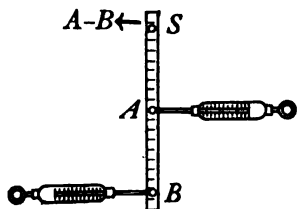

FIG. 66.—The moments about S are equal.
*To illustrate:* Take a rod, as a meter stick, drill a hole at S and place through it a screw fastened at the top of the blackboard. Attach by cords two spring balances and draw to the right and left, A and B as in Fig. 66. Draw out the balance B about half way, hold it steadily, or fasten the cord at the side of the blackboard, and read both balances. Note also the distance AS and BS. Since the rod is at rest, the tendency to rotate to the right and left must be equal. That is, the moments of the forces